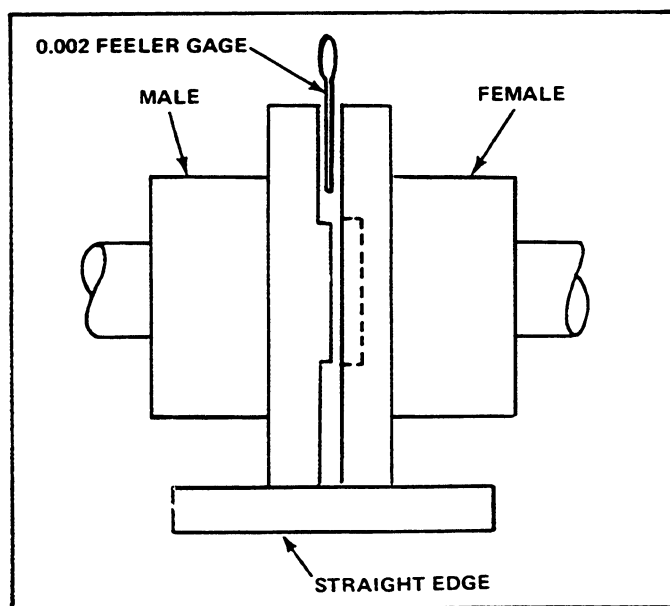

Figure 9-17. *Checking Alignment (Parallelism) of Coupling and Propeller Flanges.*
2. It will also be necessary to move the engine and transmission from one side or the other on the bed to obtain horizontal alignment. This can be done with a jack placed horizontally between the engine and the foundation. At the same time, a straight edge is laid across the edges of the flanges at the top and side to check the parallel alignment of the coupling edges. See Figure 9-17.